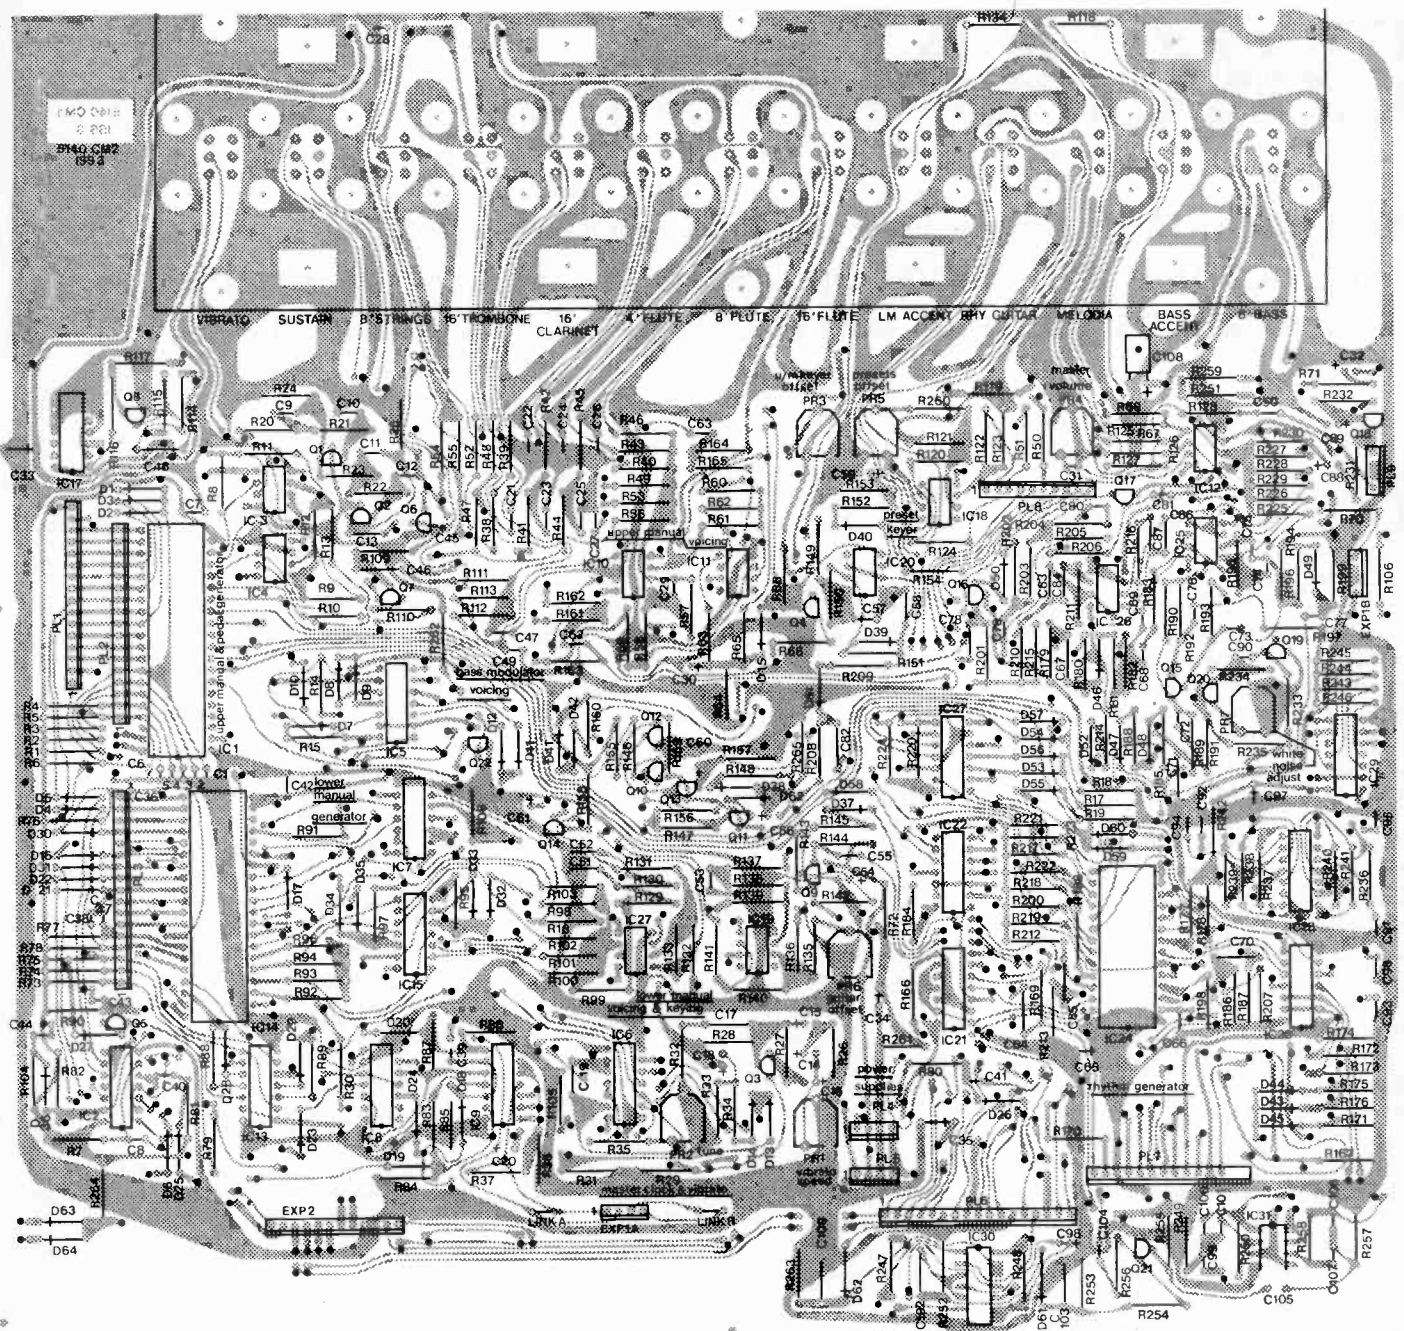

Fig. 2 (Above) The overlay for the main board. This is silk-screened on the finished item.
**B**efore starting on the construction details for the organ, there is one section of circuitry remaining that needs to be explained — that of the swell pedal and glide control. Figure 2 in the February article contains the circuitry in question. The swell pedal performs the function of volume control for the whole organ and acts upon the signal which is output from the main mixer to the power amplifier. It operates by using an LDR (light dependent resistor), which is connected between ground and the signal line and which has a 12 V MES bulb mounted facing it. As the swell pedal is moved up and down, an optical filter is moved in the light path, allowing more or less light to reach the LDR and thus altering its resistance. This method of control is far superior to using potentiometers, which go noisy with age and wear and can produce fearful noises when connected to an amplifier input. The light operation ensures noise-free performance.